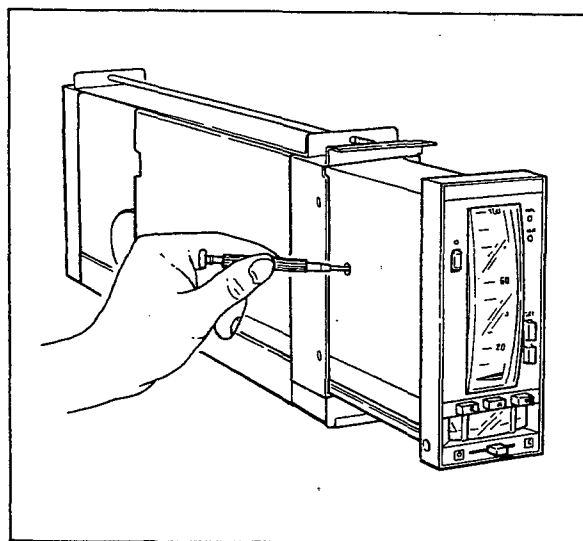

Figure 6-2-1. Adjusting Zero Point of Set Value Indicator.
- (1) Apply a 3.0 V DC standard voltage to input terminal X1 (terminal no. 1(+) and 2(-)) from a standard voltage source.
- (2) Check that the process variable pointer is at the 50% ± 0.5% calibration mark on the scale.
- (3) If the indication is not within the specified range, adjust the zero adjustment screw as shown in Figure 6-2-1 until the pointer correctly indicates 50%.
- (4) Change the input signal in turn to 1.0V, 2.0V, 4.0V and 5.0V, and ensure that the indication is respectively 0%, 25%, 75% and 100%, using the calibration marks. Tolerance for each indication is ±0.5% of the span.
- (5) If the indication is not within the ±0.5% tolerance at any position, again input 3.0 V DC, and adjust the indicated value slightly — within the range 50% ± 0.5%.
- (6) Repeat step (4). As necessary, repeat steps (4) and (5) until all points fall within the tolerance range.